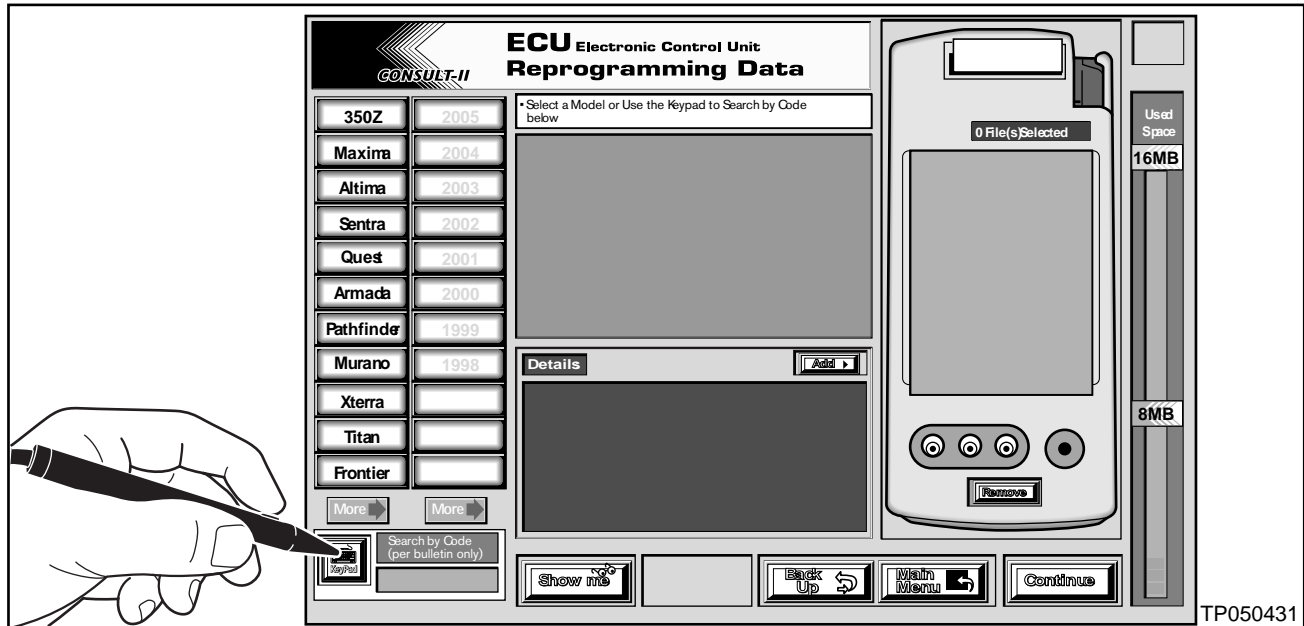

Figure 5
- After you select "**ECU Reprog. Data**", the "ECU Reprogramming Data" screen will be displayed (see Figure 5, next page).
- a. Click on the Keypad button (see Figure 5).